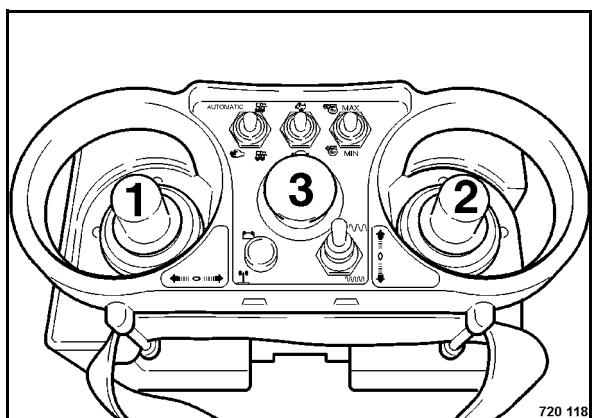

Fig. 77
- With the transmitter switched off actuate and hold one of the travel levers 1 or 2 (Fig. 77).